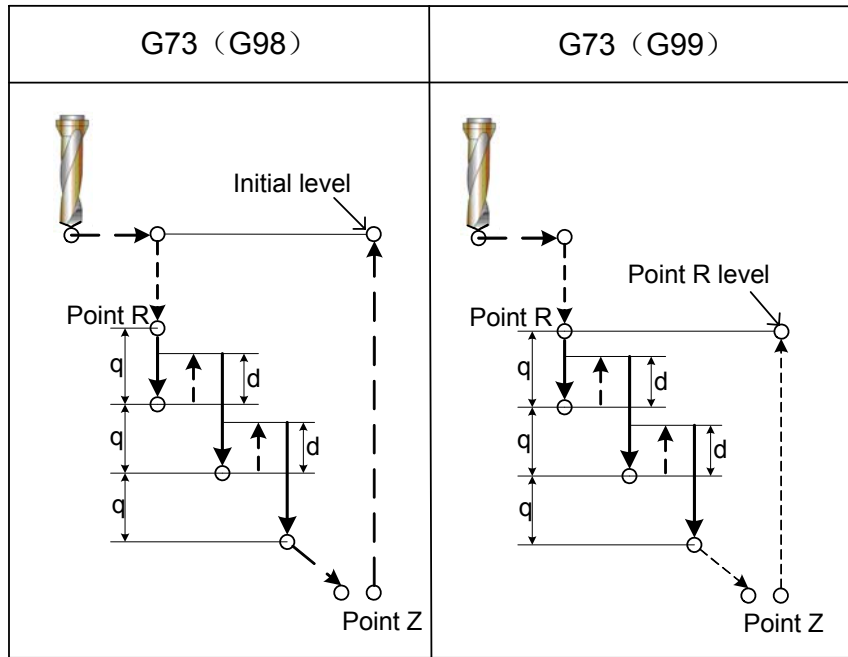

Fig. 3-4-1-1
**Function:** The cycle is specially set for the high-speed peck drilling. It performs intermittent cutting feed to the bottom of a hole while removing chips from the hole. The operation illustration is shown as Fig. 3-4-1-1.
**Q:** If parameter Q is specified, the intermittent feed shown in the figure above is performed. Here, the system retracts the tool by the retraction d (Fig.3-4-1-1) specified by data parameter **p270**, and the tool performs rapid retraction for distance d intermittently each feeding.